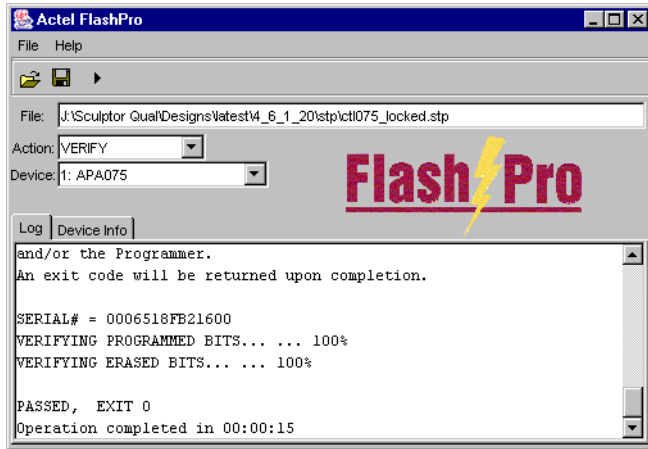

Figure 3-12. Successful Verification
4. **Click *Execute* to start the verification process.** A successful verification will result in Exit 0, as shown in Figure 3-12. If the STPL file is different from the file used for programming, Exit 11 appears in the Log window (see “Error Messages & Trouble Shooting Tips”, “Exit 11” for more details).